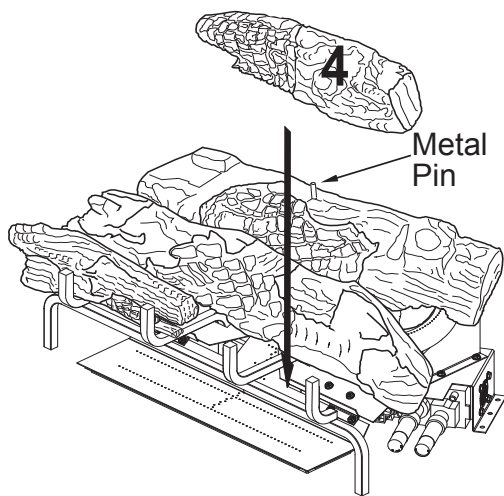

Figure 32 - Installing Log # 4
4. Place the front right log (#4) onto the base assembly between the middle log and the grate. The back of the front right log will rest against the front of the middle log. The notch in the end of the front right log will fit around the grate bar. See **Figure 32**.